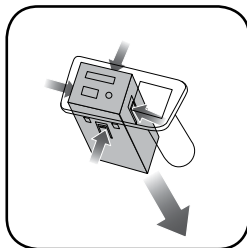

Fig. 2.4
- Depress the tabs and remove the media hub from the cover. (Fig. 2.4) Unplug all connectors. Then, put the CHK1 replacement media hub in the front cover and reinstall the media port into the center console.